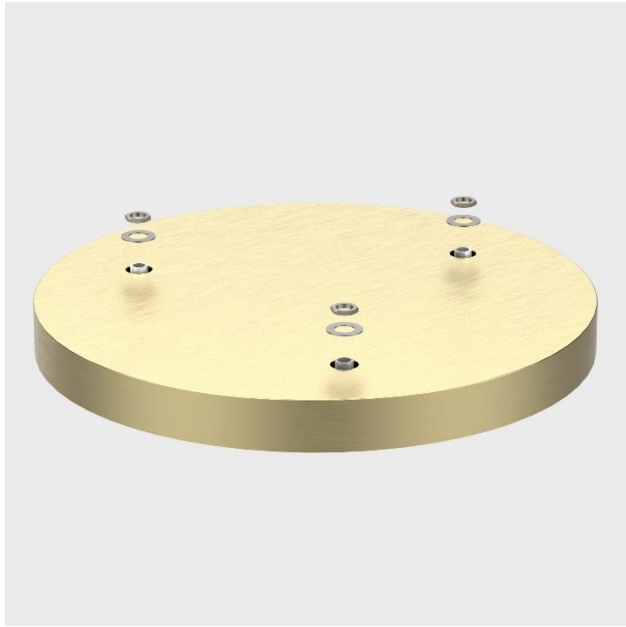

Figure 2
- Remove temporary nuts and washers from underside of canopy (Figure 2).